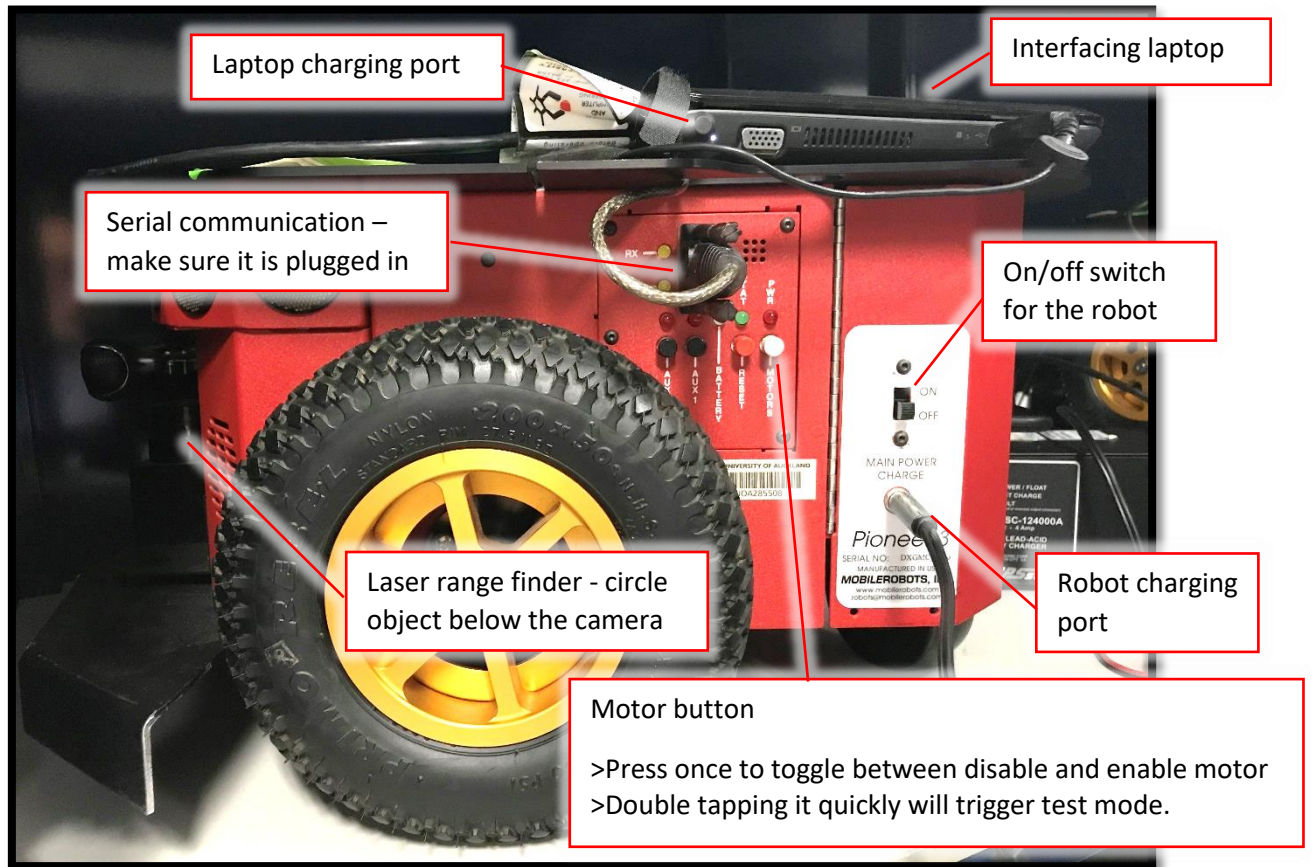

Figure 1: robot side view
- Motor button (white) to **enable/ disable motors** (see Figure 1: robot side view)